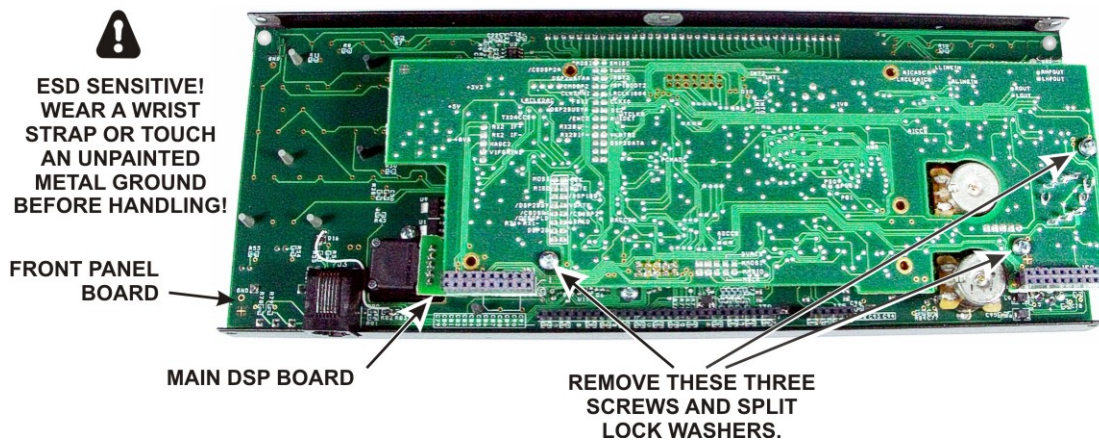

Figure 9. Removing DSP Board Assembly.
Remove the three screws and split lock washers shown in Figure 9. Depending upon the options you have installed there may be hardware filling the other holes. Remove only the three screws shown.
- Replace the three 4-40 1/4" (6.4 mm) zinc pan head screws you removed earlier with a **split** lock washer under each screw head (see Figure 9 on page 5). Do not use inside tooth lock washers here.